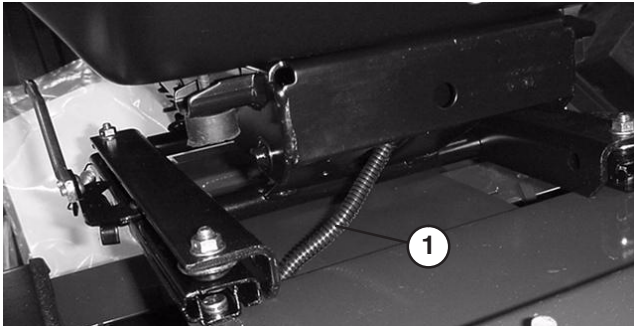

**Figure 12**
1. Mount seat suspension assembly to 4 capscrews on seat bottom and secure with 4 lock washers, flat washers, and nuts (Fig. 12).
2. Loosely secure 2 R-clamps to right side of seat bottom with 2 capscrews and flat washers supplied in kit (Fig. 12). Install manual tube into R-clamps and tighten capscrews (Fig. 12).
3. Mount seat support over four threaded studs at the bottom of seat suspension assembly and secure in place with flangenuts (Fig. 12).